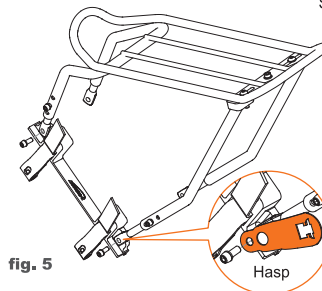

fig. 5
6. Attach clamp rigs and bungee hook hasps to carrier. Ibera logo on each rig should face outwards. For front leg, insert round bolt in front leg bolt hole, then screw into bolt hole on clamp rig. For rear leg, insert round bolt in smallest hole of hasp (hasp angled outwards, facing upwards), then screw into bolt hole on clamp rig (see fig. 5, 6).